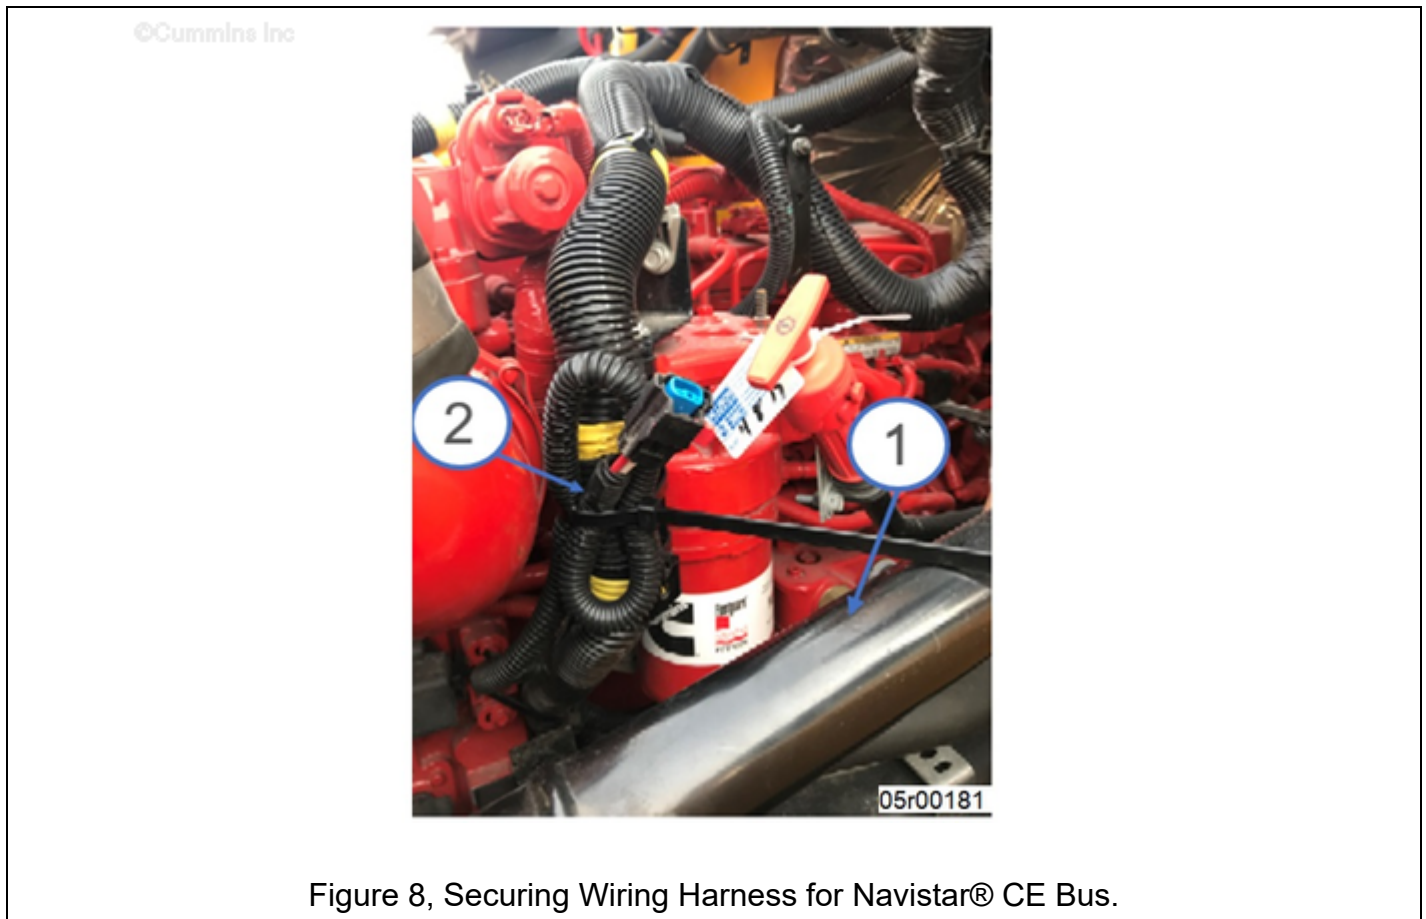

Figure 8, Securing Wiring Harness for Navistar® CE Bus.
1. Verify mating connector is installed. Verify wiring harness is **not** contacting pipe. See figure 8 below.
2. Bundle wiring harness branch to main wiring harness with cable tie between two yellow tapes. Trim excess cable tie. See figure 8 below.